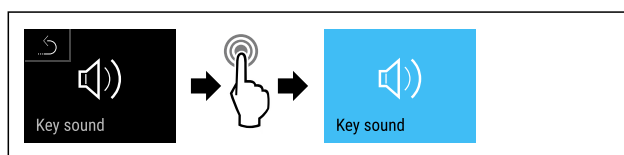

Fig. 94
- ▶ Complete steps (see Fig. 94) .